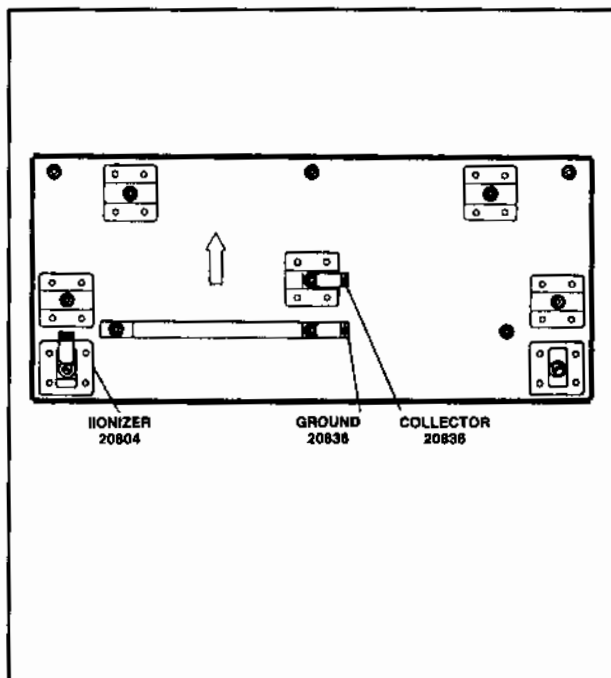

FIGURE 11 - CELL INSULATORS AND CONTACTS
c. Using a voltmeter, measure the voltage from the collector contact to ground. See Figure 11.
e. Using a voltmeter, measure the voltage from the ionizer contact to ground. See Figure 11.
a. Turn the electronic air cleaner OFF, and release the interlock safety switch. Bleed the electronic cells by placing a screwdriver across the ionizer contact to ground and the collector contact to ground. See Figure 11.
- Remove dirt accumulated on the insulators and on the ionizer and collector contact tabs. See Figure 11.